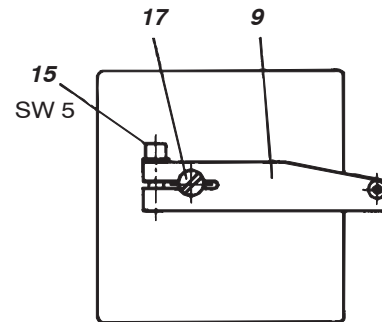

Fig. 22: Attaching the feedback lever to the positioner
- e) Fasten the feedback lever 9 for the rotary actuator onto the shaft of the positioner 17 as shown in Fig. 22.